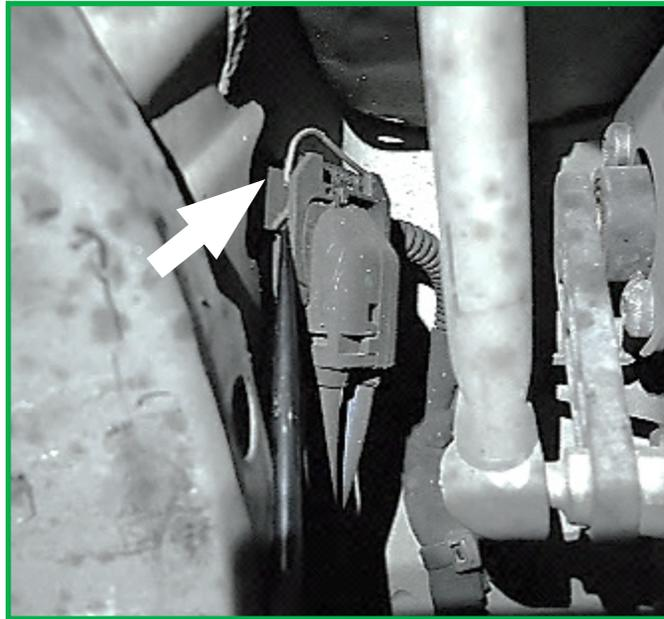

FIGURE 5
4. Locate the air strut's electrical connector and remove retaining clip. (Figure 5)